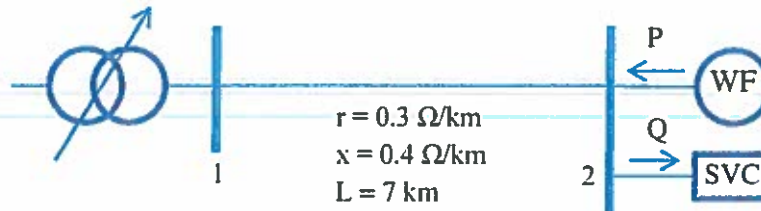

Figure 5.1: Wind farm connection.
- a) A wind farm is connected to the electrical system via 11kV overhead line as shown in Figure 5.1. The 33kV/11kV transformer is equipped with automatic voltage regulator and keeps the voltage at busbars 1 at 11 kV. Overhead line length, unit resistance and reactance are shown in Figure 5.1.